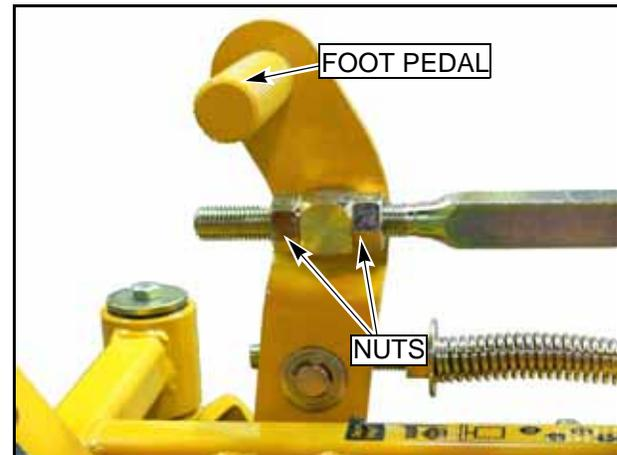

FIG. 76
7. Loosen the two nuts on the front of height indicator so that the foot pedal is free (FIG. 76).
12. While keeping the chain tight, tighten the nuts against the deck lift block on the height indicator rod (FIG. 76).